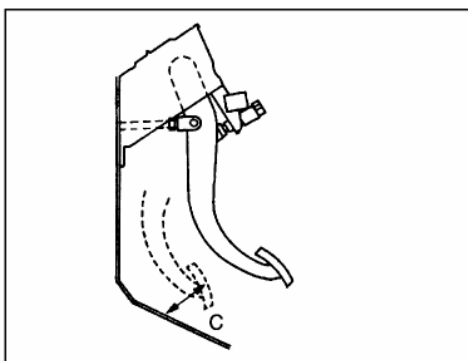

Fig 16-5
3. Inspection and adjustment the clearance between brake pedal and floor (see Fig. 16-5)
- ① Roll up carpet and other goods under brake pedal.
- ② Start the engine depress the brake pedal with approximately 294N {30kgf} of force, and measure clearance between the brake pedal and the floor.